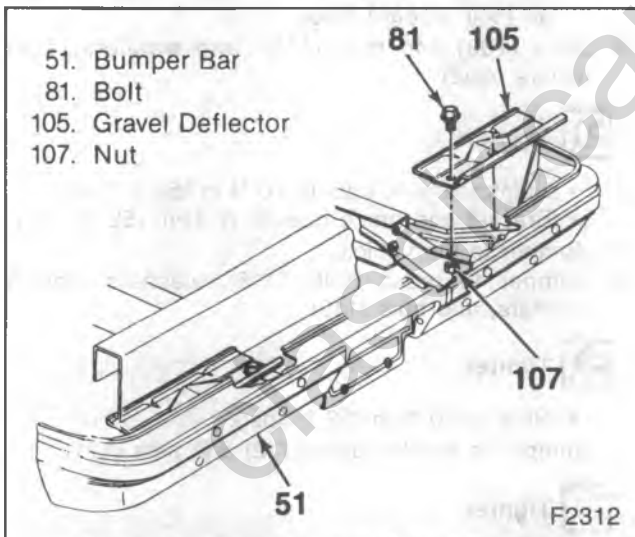

Figure 13—Rear Bumper Gravel Deflector
1. Brace nuts (93), spring washers, and washers at the bumper.
2. Bracket nuts (99), spring washers and washers at the bumper.
4. Bumper bolts (106).
5. Gravel deflector nuts (107) and bolts (81) (where used) (figure 13).
6. Gravel deflectors (105).
7. Brace to frame nuts (100), spring washers (102), and bolts (104).
5. Gravel deflectors (where used) (figure 13).
6. Nuts (107) and bolts (81).